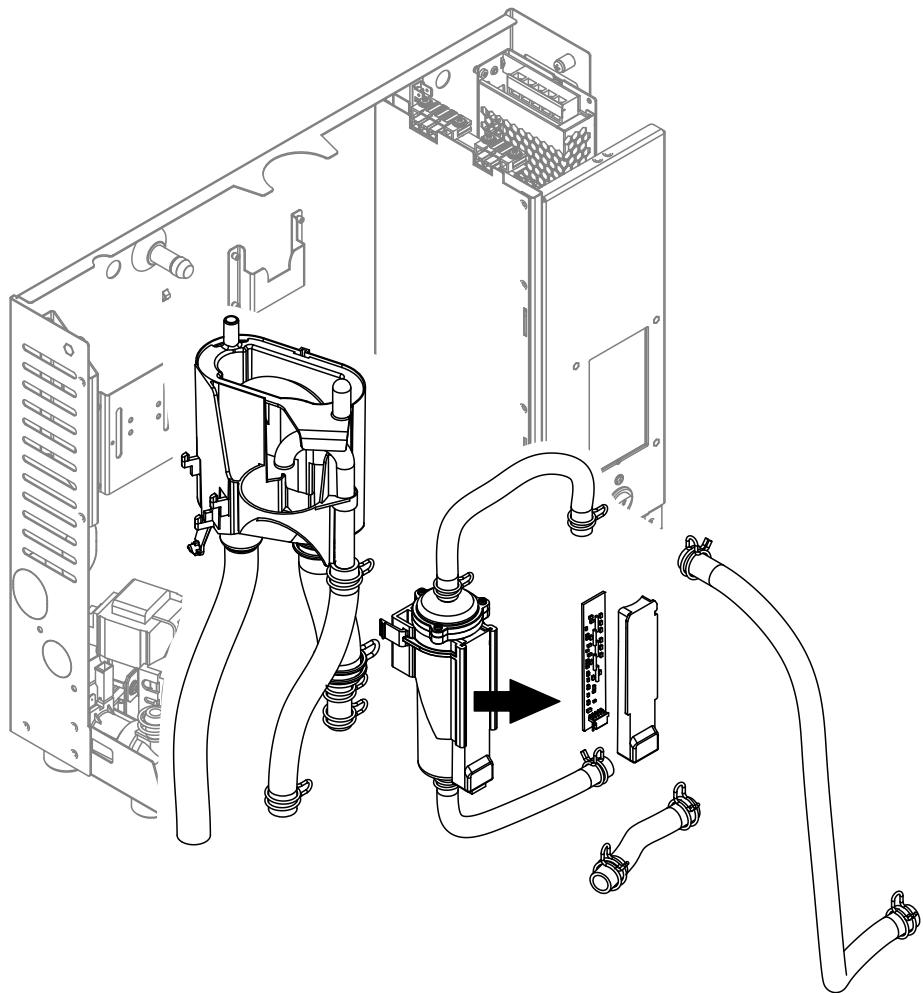

*Fig. 7: Connection allocation of the heating cables*
- Connect heating cable plugs into the corresponding sockets (see Fig. 7).
- Attach connecting cables to the connectors of the overtemperature switch(es) (see Fig. 7).